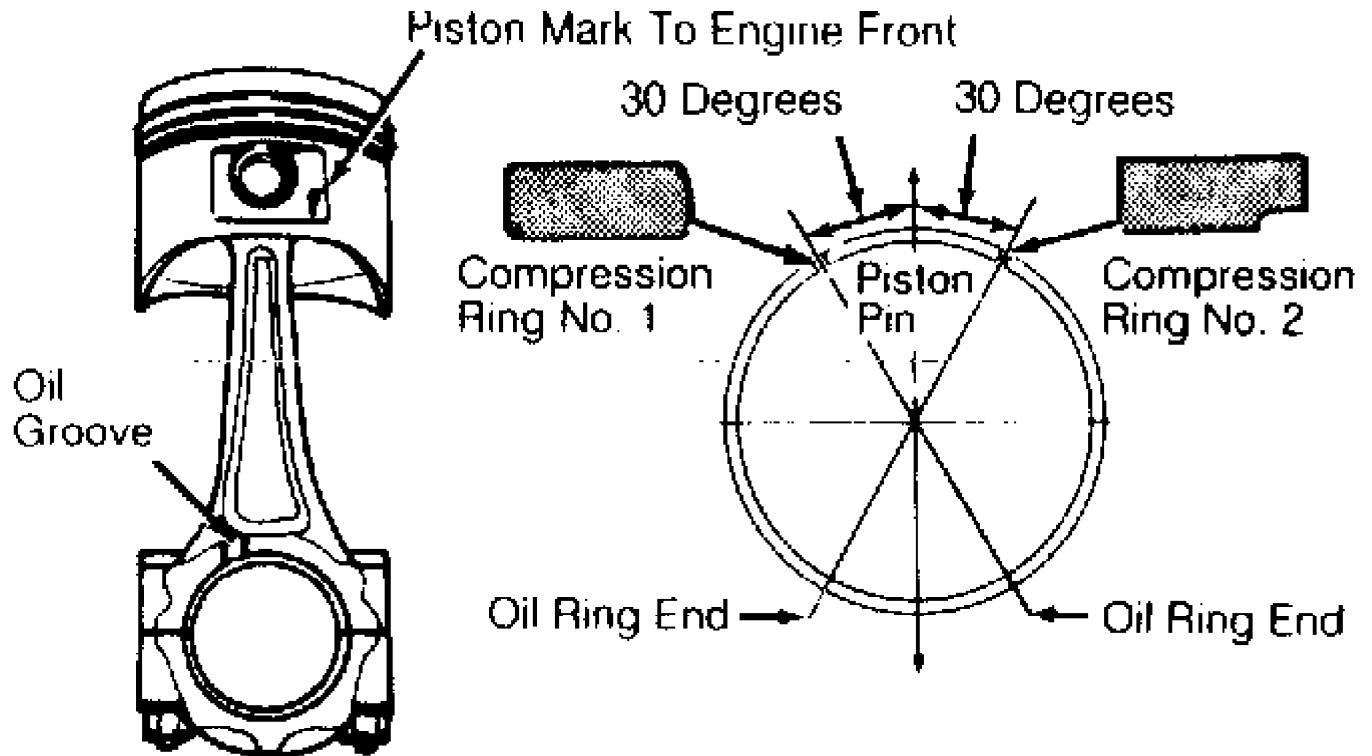

Fig. 13: Assembling Piston, Rod & Rings
3) To install, ensure parts are matched to cylinder. Ensure piston, rod, rings and bearings are properly fitted and in related positions. See Fig. 13. Install piston and rod assembly into block.
Match mark piston-to-pin and rod-to-piston positions for proper reassembly. Remove piston pin retaining clip. Drive piston pin out of piston and rod assembly. Install one piston pin retaining clip into groove in piston. Ensure piston is positioned properly on connecting rod. See Fig. 13. Tap piston pin into piston and through rod. Install second retaining clip. Piston should pivot freely.